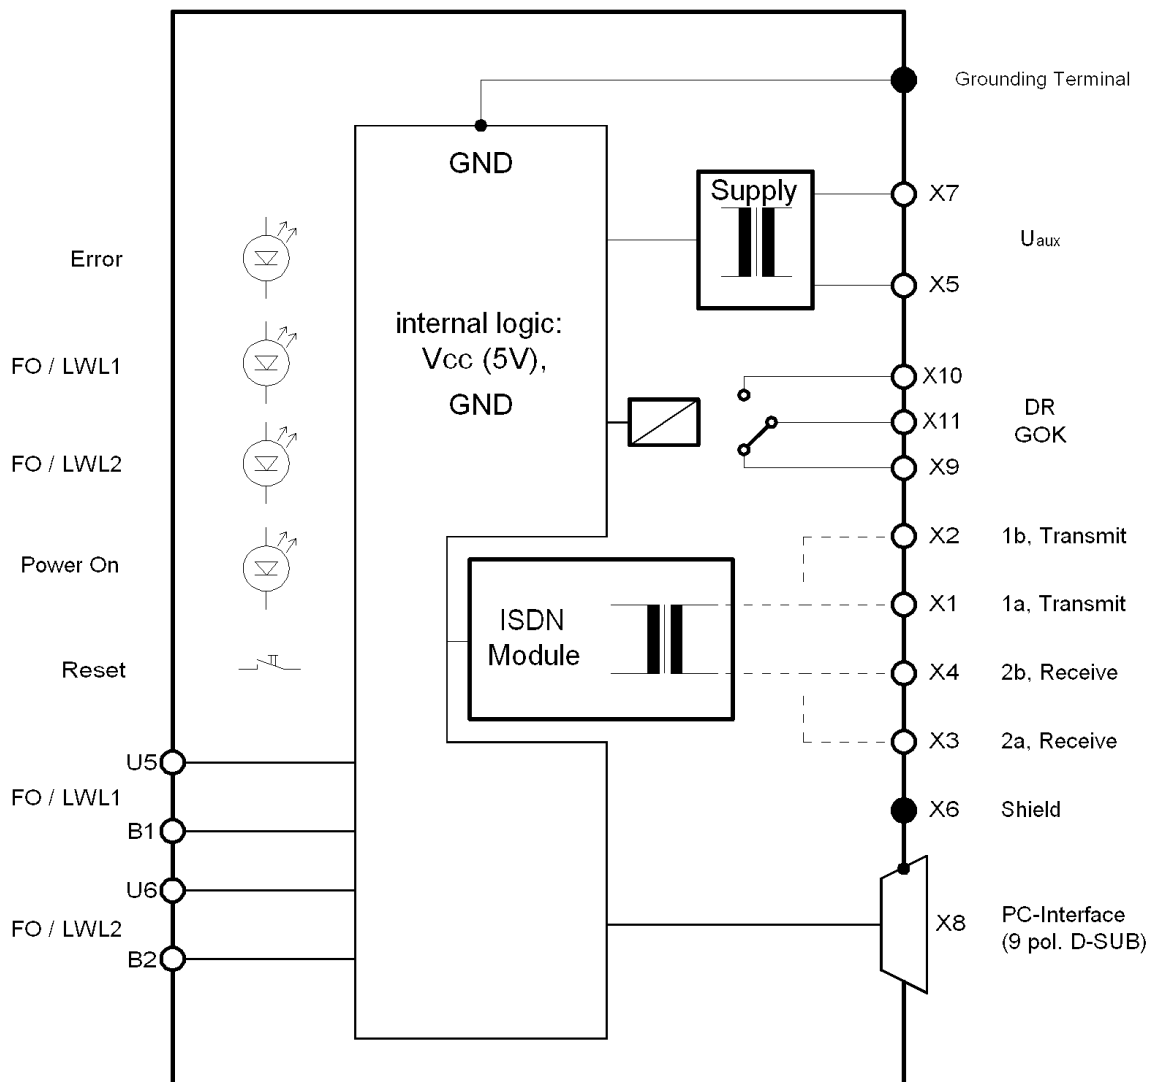

Figure 21 Hardware structure of the CC-S₀
The task of the Communication Converter S₀, CC-S₀, is to perform an adaptation of the available fibre optic active interface in the protection device (DTE) to the physical specification of the respective interface of the communication network (DCE, NTBA). The adaptation occurs completely bit-transparent, i.e. direct forwarding of the information without adding or filtering out information. Figure 21 shows the hardware structure.
- **S₀-Bus:** The signals of the S₀-Bus interface must be applied to the 5-pole screw terminal (S₀-Bus, Rx and Tx twisted pair). The fifth screw terminal adjacent on the left ('S') is for contacting the cable screen. The cable screen is connected to the housing. The S₀-Bus signals are electrically isolated from the other electrical circuits (Figure 21).